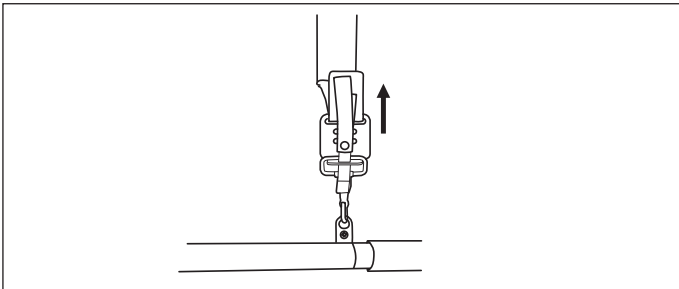

Fig. 10b
- 4). In case of emergency, pull the rope of the quick release mechanism. The metal locking bar will be released from the securing clip automatically because of the weight of the machine, and the machine will drop away from you. (See Fig. 10b)